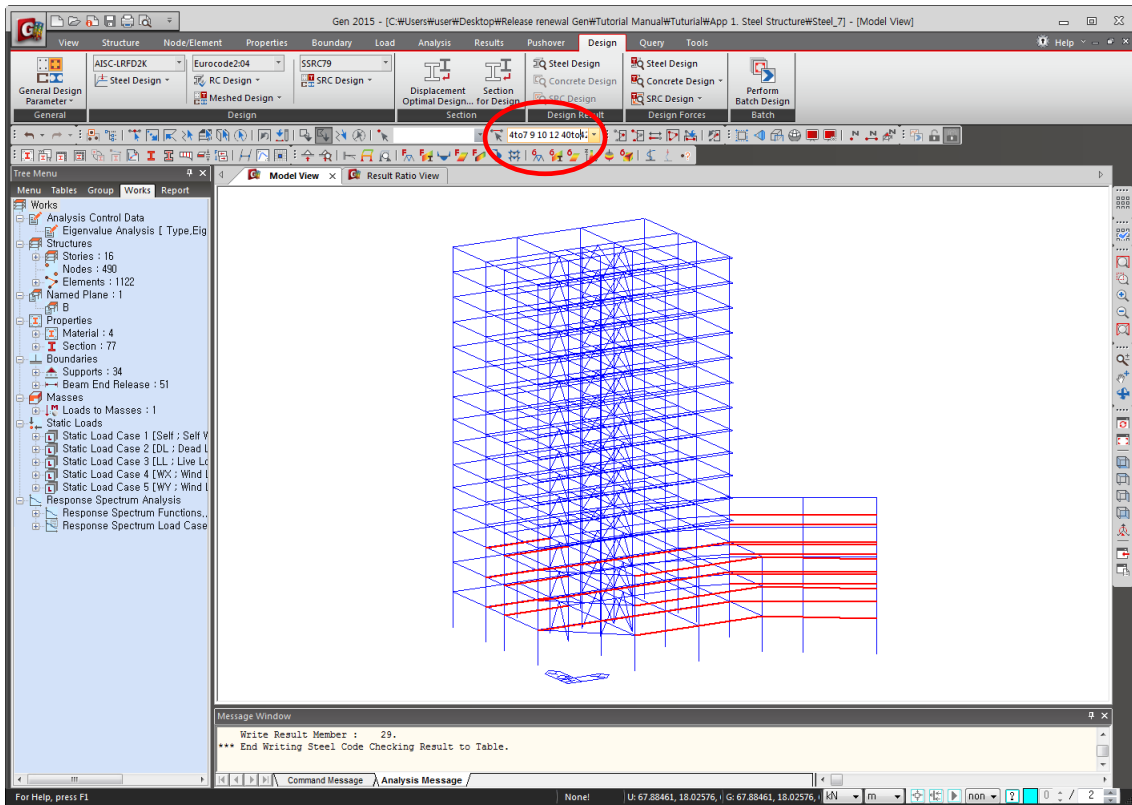

Figure 1.76 Select elements to modify the sections
The right side of  *Select Identity-Element* (Refer to ❶ of Figure 1.76)